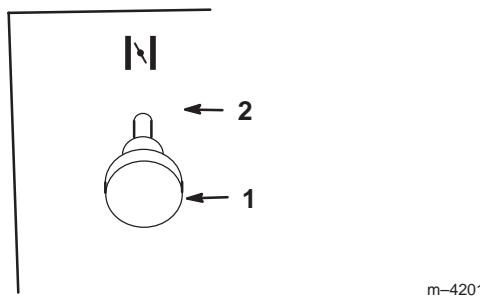

Figure 8
5. Move the choke to on (Fig. 8).
9. After a cold engine starts, move the choke to off gradually (Fig. 8). If the engine stalls or hesitates, move the choke lever back to on for a few seconds.
10. After a warm engine starts, move the choke to off immediately (Fig. 8).